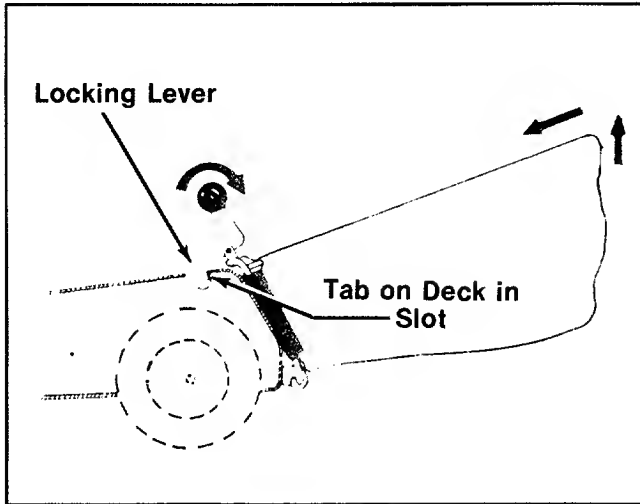

FIGURE 20.
2. Lift off grass catcher. See figure 20.